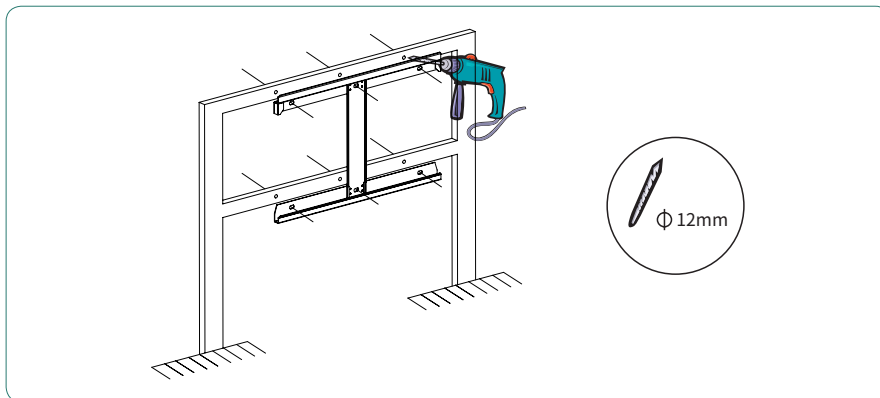

Figure 4-5 Mark the hole position
- ① Use the inverter back bracket as the template to mark the position of 6 holes on installation bracket.
- ② Use an electrical driller with 12mm diameter bit to drill 6 holes on the installation bracket. See Figure 4-5 for details: